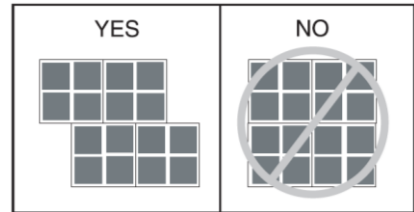

Fig. 11
1. Begin the second row of planks with the piece cut from the last piece in the first row. If the piece is shorter than 8" (20.32 cm), cut a new plank in half and use it to begin the second row. Whenever practical, use the piece cut from the preceding row to start the next row. End joints of all boards should be staggered 8" (20.32 cm) or more. Grout lines on planks with tile visuals can be aligned, or off-set as long as end joints are staggered (**Fig. 11**).